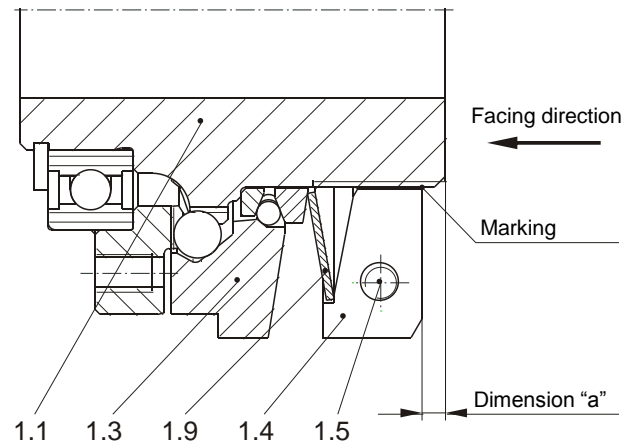
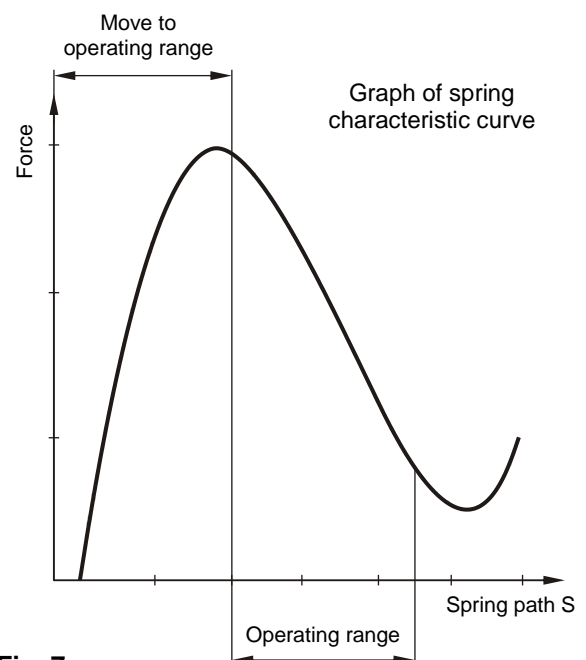

Fig. 5
Fig. 7
Torque adjustment is carried out by turning the adjusting nut (1.4). The installed cup springs (1.9) are operated in the negative range of the characteristic curve (see Fig. 7); this means that a stronger pre-tensioning of the cup spring results in a decrease of the spring force.
If no particular torque adjustment is requested customer-side, the clutch will always be **pre-set** and **marked** (calibrated) manufacturer-side to approx. 70 % of the maximum torque. It is possible to check the **"Spring operation in the operating range"** (Fig. 7) using the dimension "a" (distance from the adjusting nut (1.4) facing side to the hub (1.1) facing side, as shown in Fig. 5).
You should be facing the adjusting nut (1.4) as shown in Figs. 5 and 6.
d) The required torque results from the marking overlap on the hub (1.1) and the percent value on the adjusting nut (Item 1.4 / Figs. 5 and 6).
Adjusting the adjusting nut (1.4) or distorting the cup spring (1.9) outside of the cup spring characteristic curve (see Fig. 7) stops the clutch functioning.